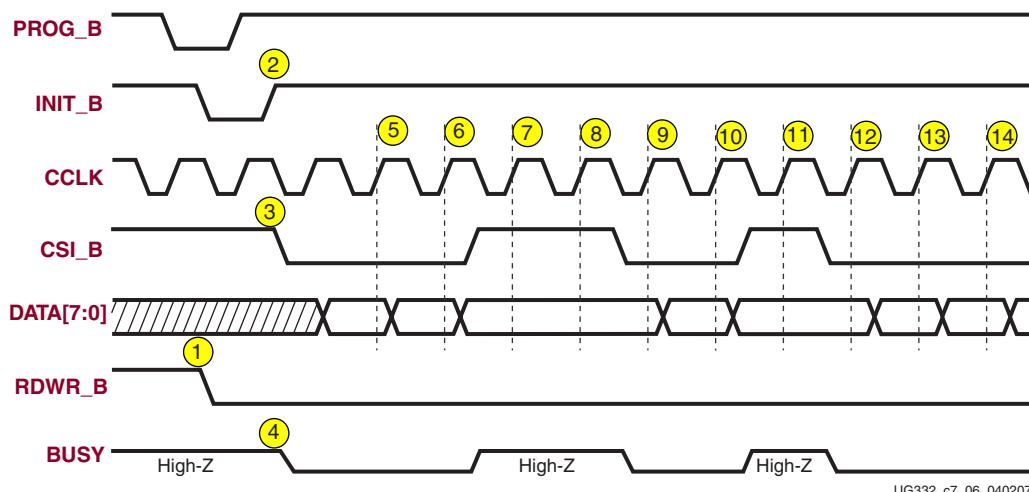

Figure 7-6: SelectMAP Non-Continuous Data Loading with Controlled CSI_B
1. Deassert the **CSI_B** signal with a free-running **CCLK**, shown in Figure 7-6 and described in “Deasserting CSI_B,” page 185.
The following numbered items correspond to the markers provided in Figure 7-6.